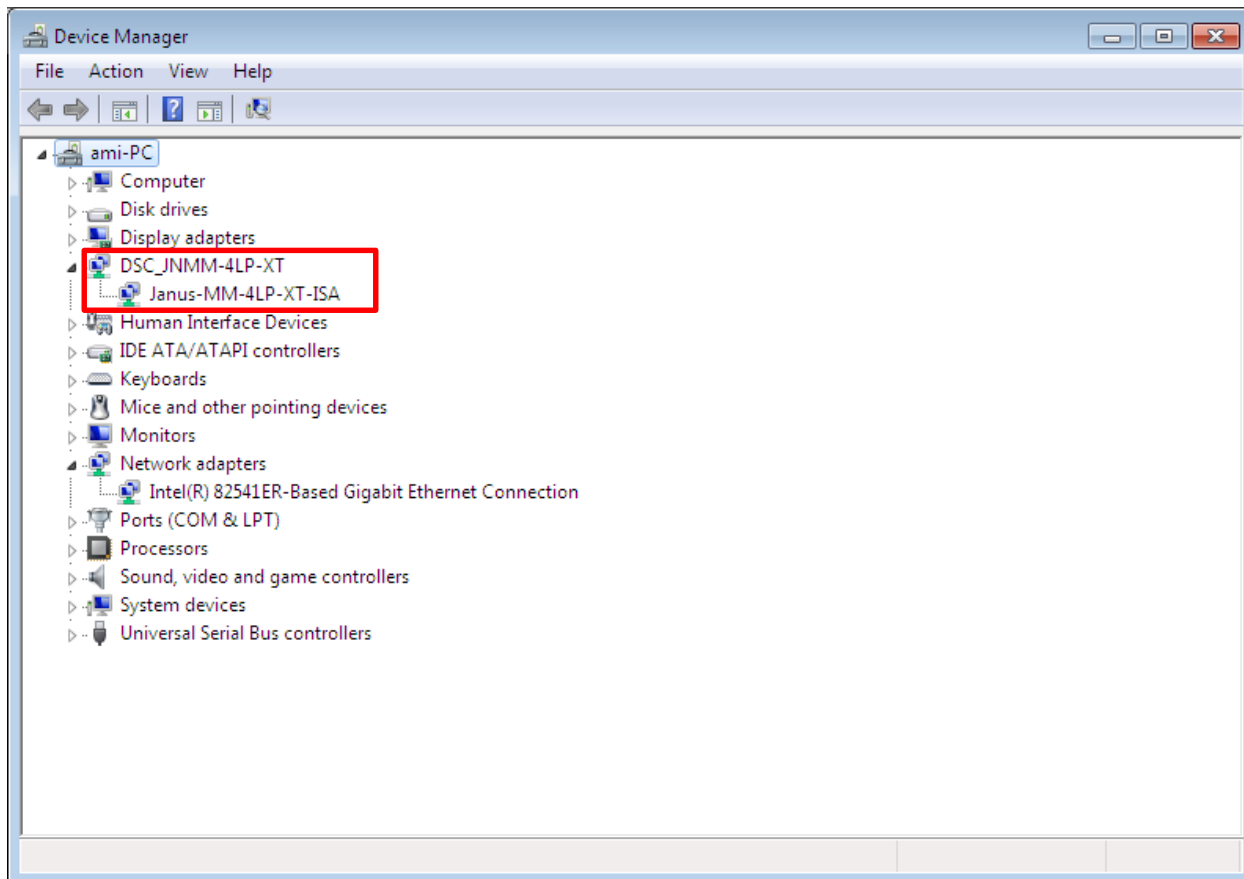

Figure 3: Device Manager
- Driver has been loaded to the system and Open the “Device Manager” to check whether the driver has been loaded in the system as shown in figure 3.